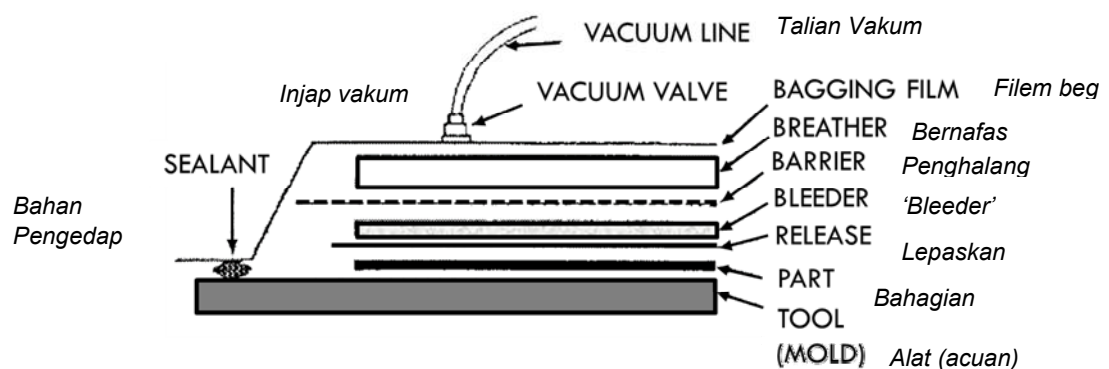

Figure 2: Vacuum bag setup.
- (3.) (a). **Figure 2** shows a schematic diagram showing all layers within a vacuum bag setup. Briefly describe the function of each layer.